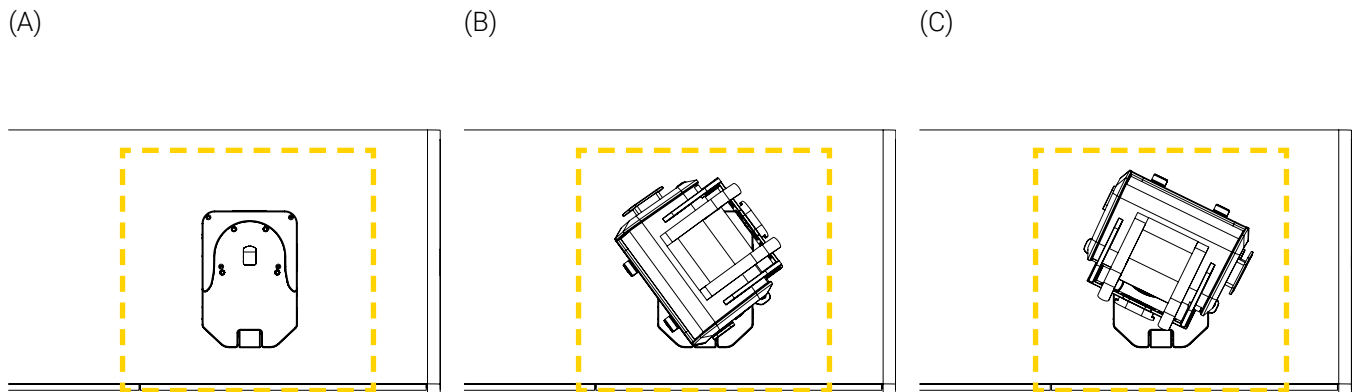

Figure 9: Perimeter clearance
2. Ensure the area of installation allows for a clearance around the Extended Surface Base that is large enough to rotate the medical device up to 360° clockwise or counterclockwise (Figure 9). The clearance needed will depend on the size of the medical device and it's mounting bracket, where it is positioned and it's surroundings.